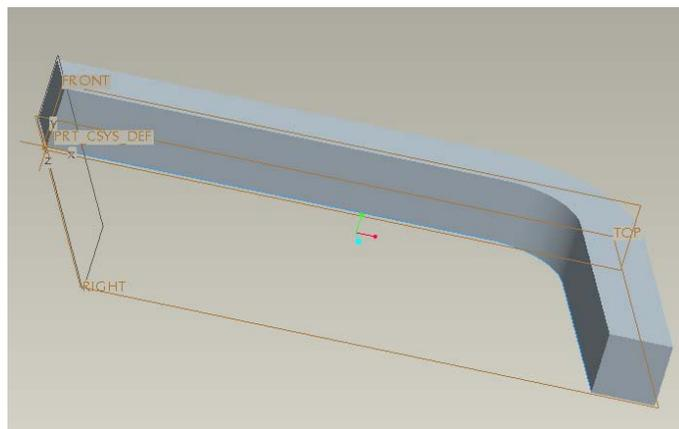

Figure 1 Bar
- Download or Create a new solid part called bar using Pro/E with units of mm-N-s (millimeter-Newton-second) as shown in Figure 1.